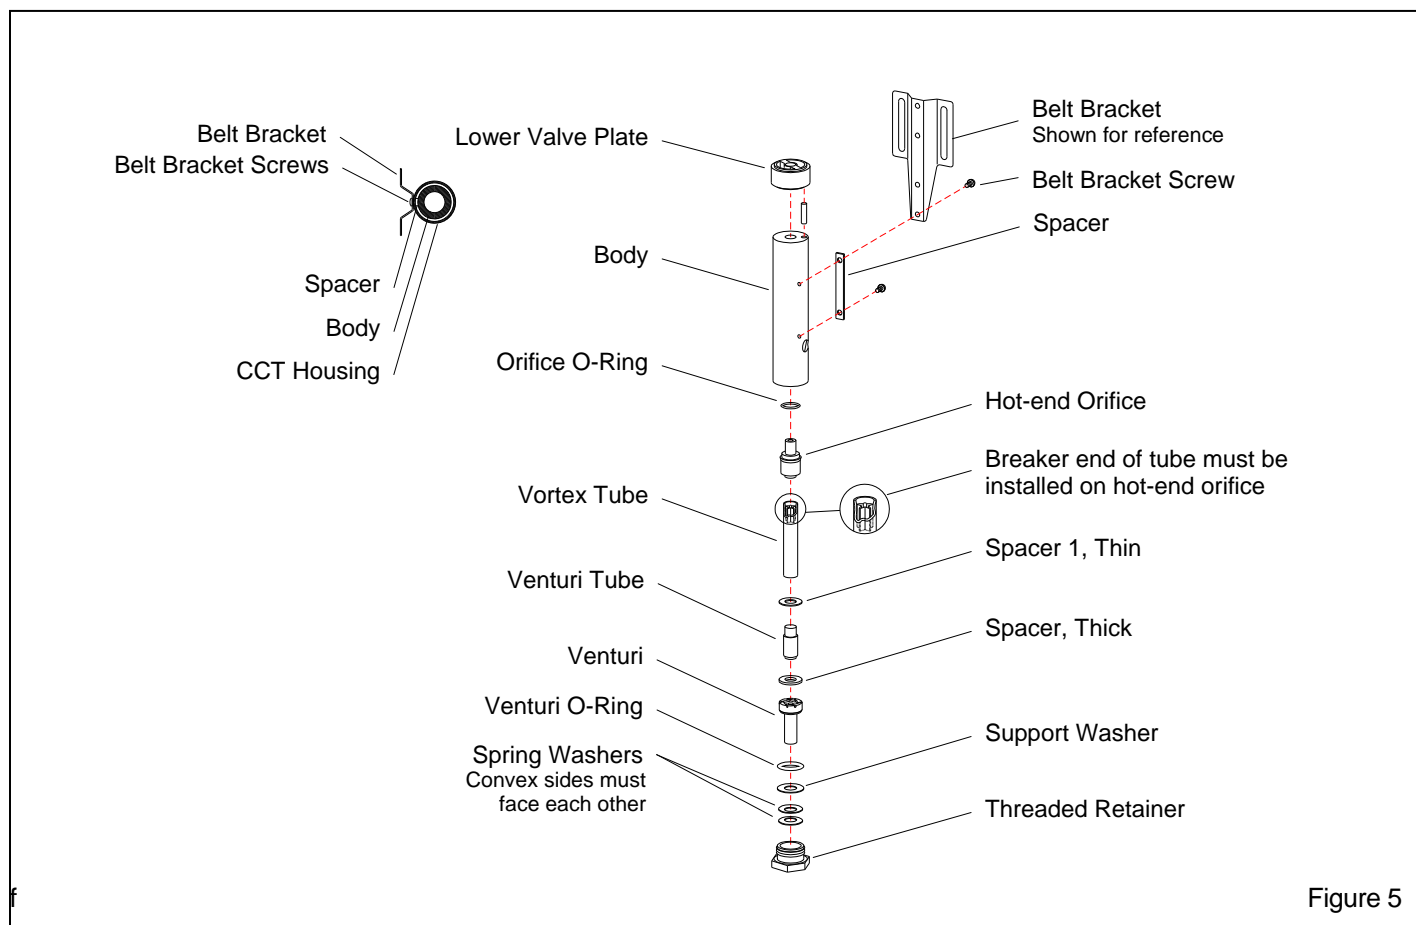

Figure 5
5.3 Second Stage Service, Refer To Figure 5.
5.3.17 Hold body assembly with hot end up as shown in Figure 5. Place pin into body assembly and place the lower valve plate onto body assembly over the pin. NOTE: The lower valve plate is identified by the smooth outer surface; the upper valve plate has three holes in the outer surface.